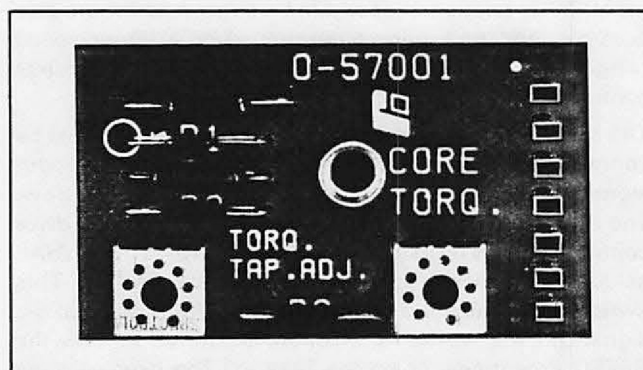
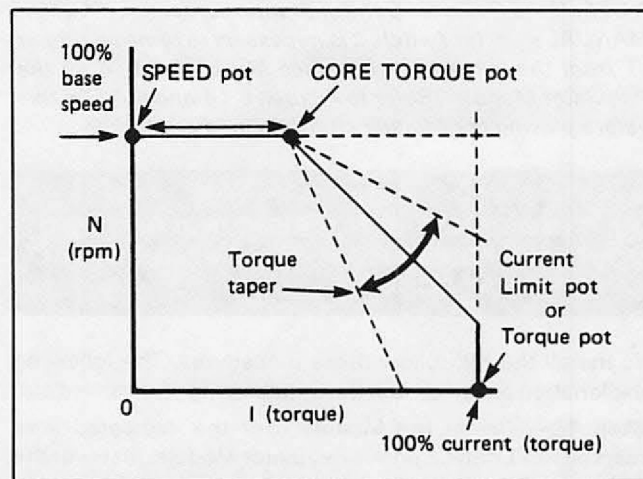

Figure 5.17 — Torque Taper Kit
Figure 5.18 — Torque Curves
**5.9 Torque Taper** — The addition of the optional Torque Taper Kit to the FlexPak Plus controller allows fine adjustment of the slope and break point of the drive's speed-torque curve. (Refer to Figure 5.17.) It is ideal for cases where simple, center-driven winders and similar applications require a reciprocal speed-torque relationship to maintain constant tension as material builds up. In other words, a higher current limit (here, torque) setting is required for a decrease in motor speed due to a growing diameter. This relationship is shown in Figure 5.18.
① **Note:** The field supply voltages listed in Table 2.D are full wave supplies. For half voltage or half wave supply connect motor lead F1, to terminal 51 on 1TB and motor lead F2 to terminal F2 on 2TB.